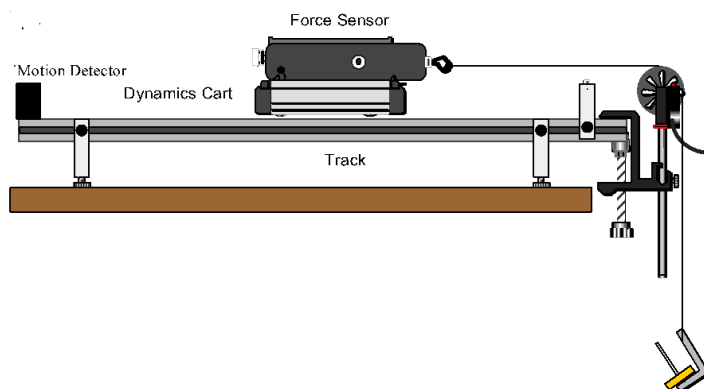

Figure 3: Setup for the experiment.
1. To collect data using the setup shown in Figure 3, set up the **850 Universal** interface with a motion sensor set to take data at 50 Hz. Set the switch at the top of the motion sensor to short distance (□).